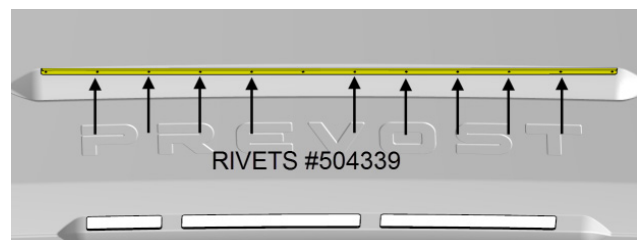

FIGURE 31
- Fasten drip edge using nine (9) rivets #504339 as shown on FIGURE 31. Use a 9/64" drill bit.